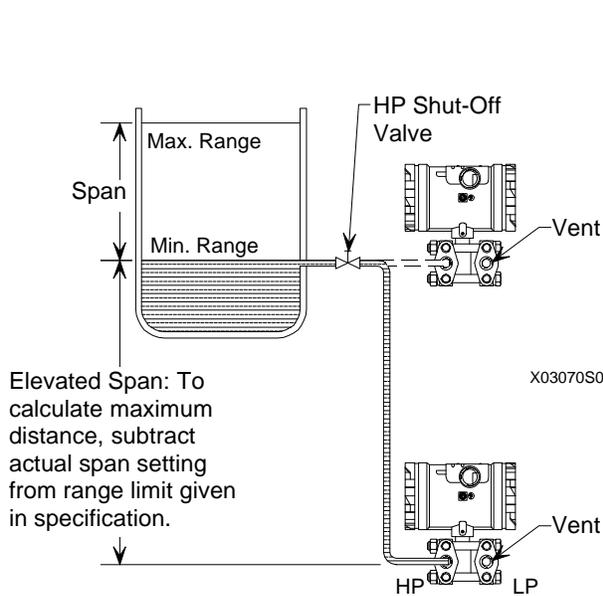

FIGURE D-1 Elevated Span Example
- Elevated Span - The Lower Range Value (LRV) of the transmitter needs to be configured above “0.” See Figure D-1.